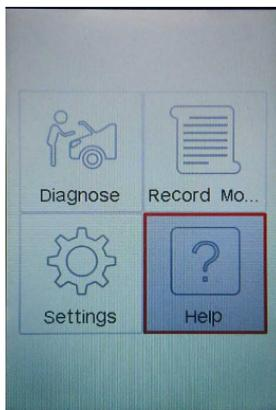

Figure 7-4 (for Creader 701)
- When the tool has powered up, place the cursor on the Help icon and press the [OK] button. (Figure 7-4)